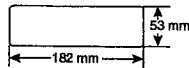

Fig.1
In-dash installation can be done if the car's dashboard has an opening for this unit as shown in Fig. 1. The car's dashboard should have a thickness of 4.5mm-6mm in order to make the installation of the unit.
b) Pull out the unit while pushing two lock lever using Dismounting Plate ⑦ as follows. (Fig. 1,2)